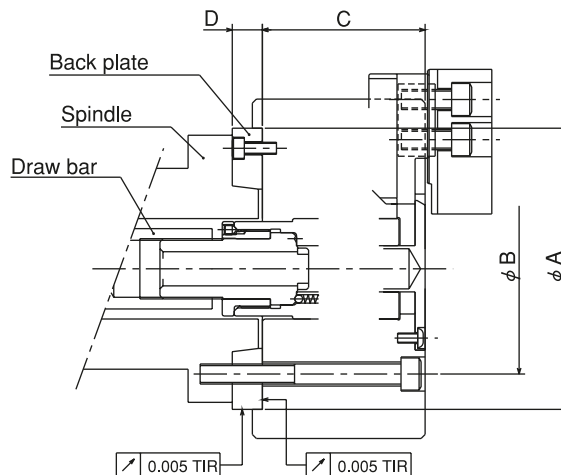

Fig. 16
- Fig.16 shows the case of the JIS short taper standard.